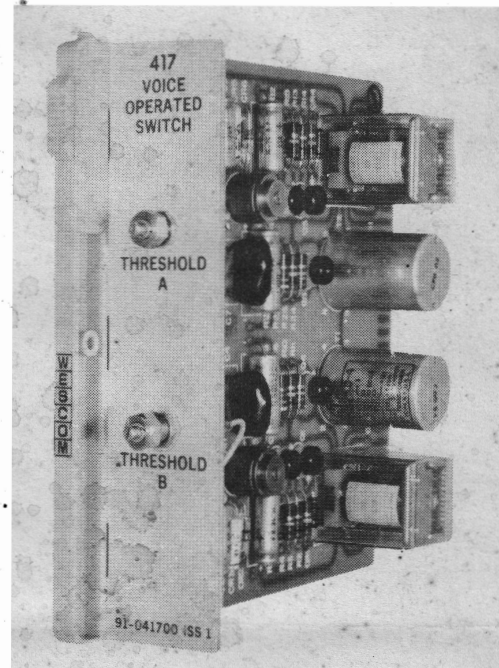

Figure 1. 417 Dual Voice Operated Switch Module.
1.02 The 417 Voice Operated Switch (Figure 1) is a plug-in, printed-circuit module which responds to voice signals present on a telephone line to operate a relay providing transfer contacts which may be used to operate visual or audible busy indications as required. The 417 module provides two independent and identical voice operated switching circuits.